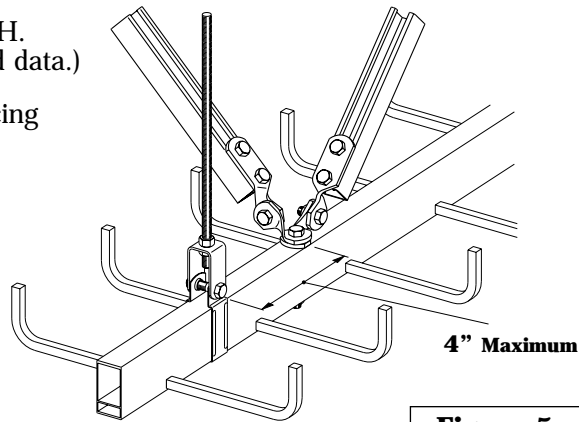

Figure 5
- 4). Both adjustable hinges may be attached to the same bolt as shown in Figure 5.